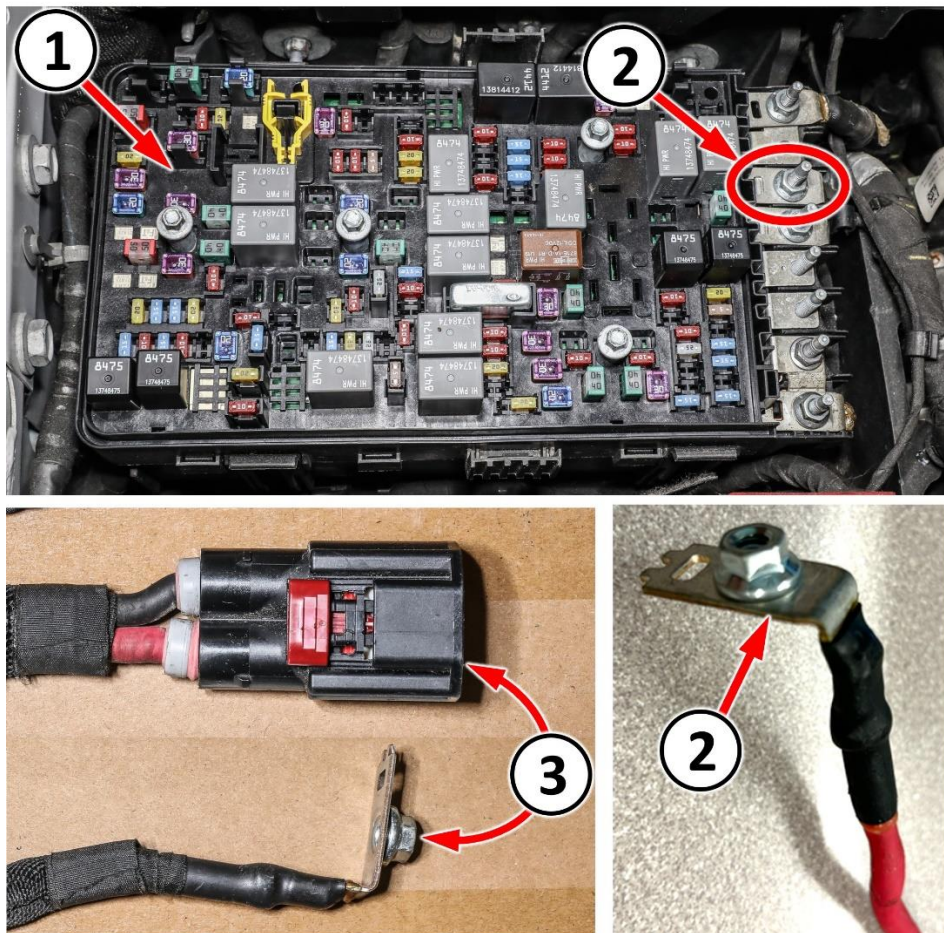

Figure B14 – EHPS Power Supply Eyelet D6630J in PDC
50. Place EHPS service overlay jumper D6630J EHPS power eyelet on post #6 on the PDC and torque nut to 9 N·m (80 In. Lbs.) (Figure B14).